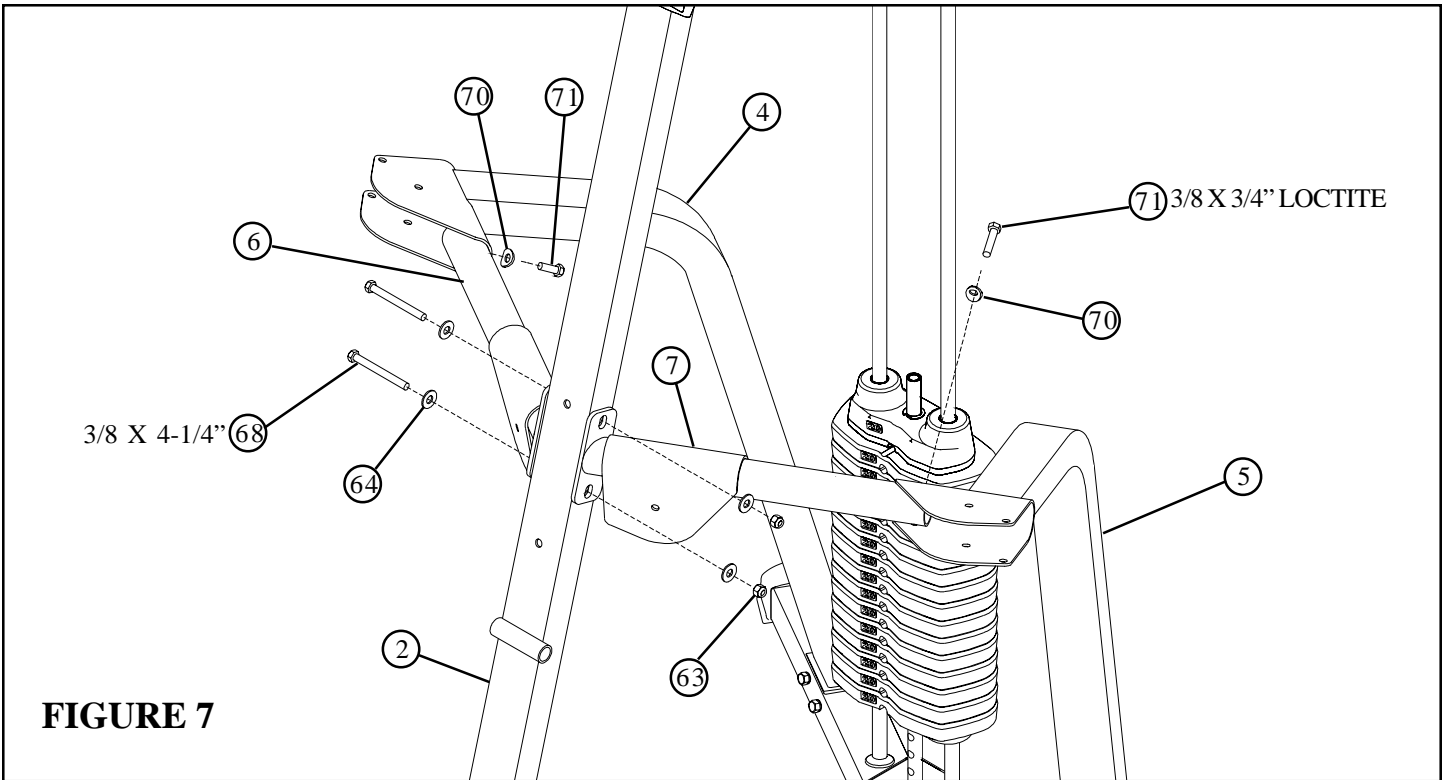

FIGURE 7
- **LOOSELY** assemble the RIGHT and LEFT ARMS (6 & 7) to the UPRIGHT (2) and the RIGHT and LEFT ARM SUPPORTS (4 & 5) using two 3/8 X 4-1/4" BOLTS (68), four 3/8" FLAT WASHERS (64), and two 3/8" LOCK NUTS (63). See FIGURE 7.
- **LOOSELY** assemble the RIGHT and LEFT ARMS (6 & 7) to the RIGHT & LEFT ARM SUPPORTS (4 & 5) using two 3/8 x 3/4" LOCTITE BOLTS (71) and two 3/8" CURVED WASHERS (70)